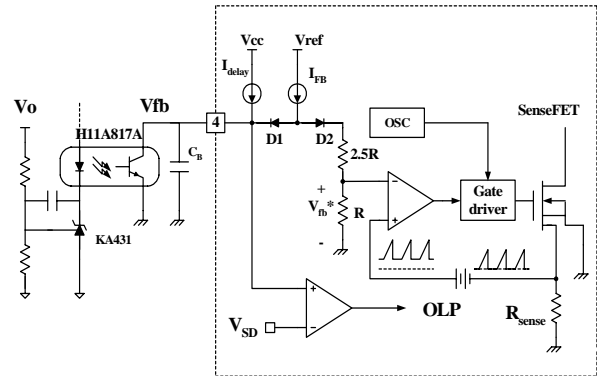

Figure 11. Pulse Width Modulation (PWM) Circuit
3. Feedback Control: The FSCQ-Series employs current mode control, as shown in Figure 11. An opto-coupler (such as Fairchild's H11A817A) and shunt regulator (such as Fairchild's KA431) are typically used to implement the feedback network. Comparing the feedback voltage with the voltage across the Rsense resistor plus an offset voltage makes it possible to control the switching duty cycle. When the reference pin voltage of the KA431 exceeds the internal reference voltage of 2.5V, the H11A817A LED current increases, pulling down the feedback voltage and reducing the duty cycle. This event typically happens when the input voltage is increased or the output load is decreased.
3.1 Pulse-by-Pulse Current Limit: Because current mode control is employed, the peak current through the SenseFET is limited by the inverting input of the PWM comparator (Vfb*) as shown in Figure 11. The feedback current (IFB) and internal resistors are designed so that the maximum cathode voltage of diode D2 is about 2.8V, which occurs when all IFB flows through the internal resistors. Since D1 is blocked when the feedback voltage (Vfb) exceeds 2.8V, the maximum voltage of the cathode of D2 is clamped at this voltage, thus clamping Vfb*. Therefore, the peak value of the current through the SenseFET is limited.